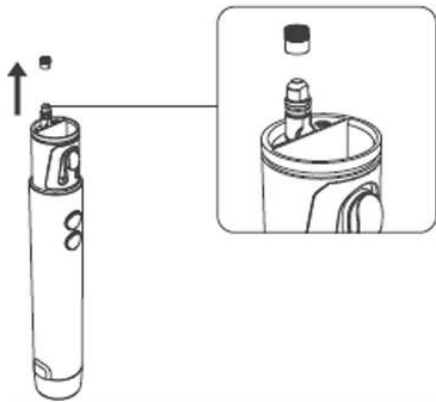

Fig. 33
5. Remove the filter for the handle of the brush and rinse it with clean water (see Fig.33).